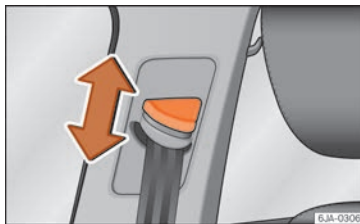

Fig. 81 Location of the belt height adjuster.
- Press the upper part of the shoulder belt guide and hold it in this position »» Fig. 81.